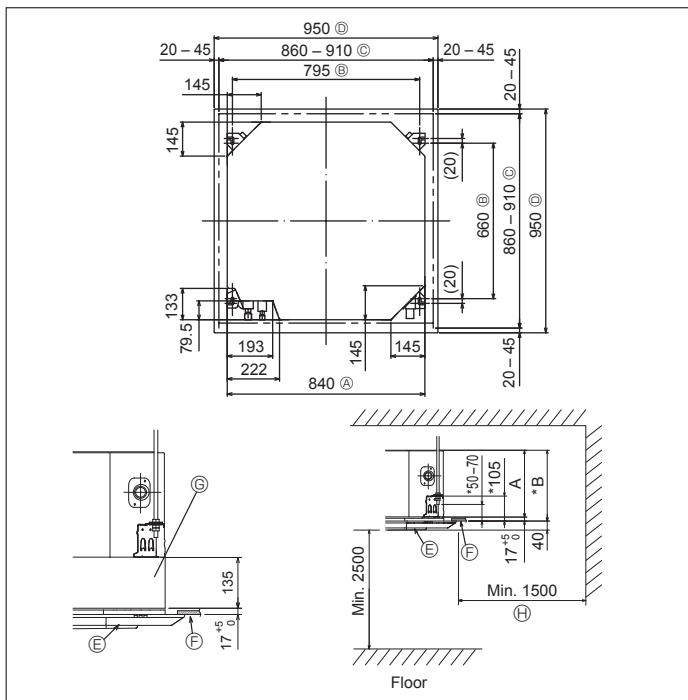

Fig. 3-2
④	Band (large)	8
⑤	Band (small)	1
⑥	Drain socket	1
⑦	Insulation	1
3.2. Ceiling openings and suspension bolt installation locations (Fig. 3-2)
* The dimensions of ceiling opening can be regulated within the range shown in Fig. 3-2; so center the main unit against the opening of ceiling, ensuring that the respective opposite sides on all sides of the clearance between them becomes identical.